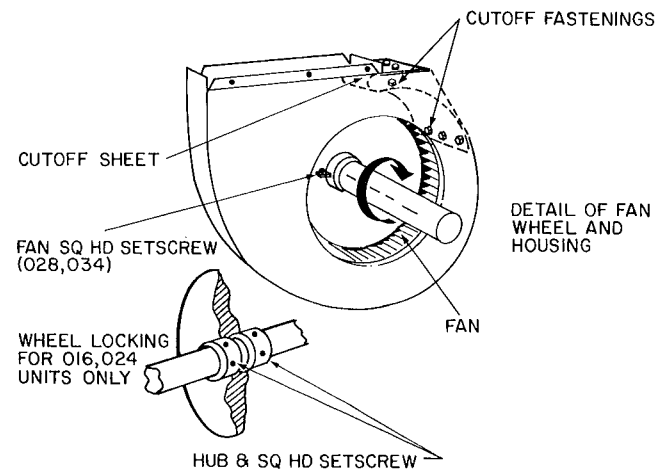

Fig. 11 — Fan Locking Detail
1. Loosen setscrews holding wheel support to shaft (Fig. 11).
1. Loosen fan wheel square head setscrews on each side of fan support (Fig. 11).